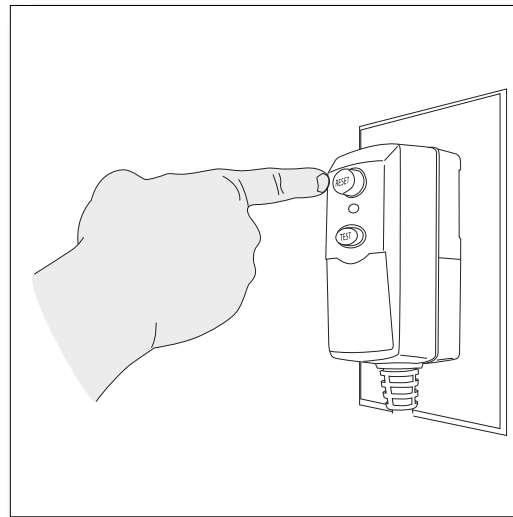

Fig. 19
- Unwind the power cord completely and plug the GFCI into a grounded 120 volt outlet. Press the ‘**reset**’ button on the GFCI box (**Fig. 19**). The indicator window should show a red color. This must be done each time the unit is plugged in.